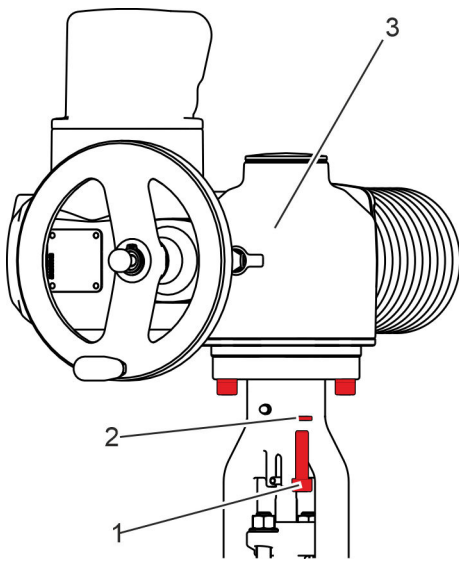

Fig. 37: Removing the screws
2. ➤ Unscrew the fastening screws (Fig. 37/1) of the electric actuator (Fig. 37/3) and remove them together with the washers (Fig. 37/2).
3. ➤ Take off the electric actuator (Fig. 37/3) and store it outside the work area.